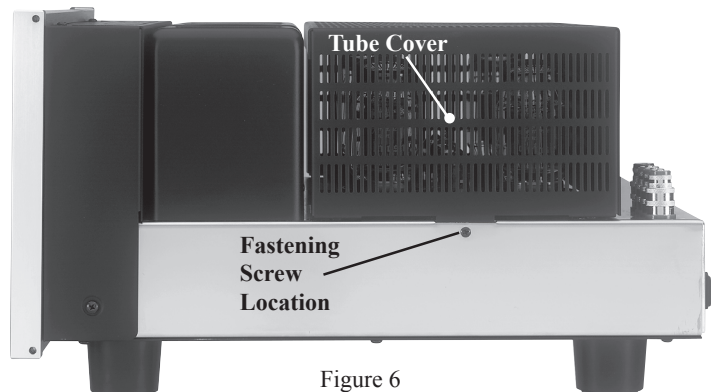

Figure 6
- Carefully place the Tube Cover onto the MA2275. Refer to figure 6.